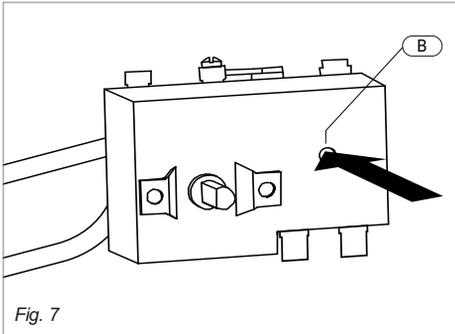

Fig. 7
- Firmly press reset button (Fig. 7, [B]) with the tip of a ball point pen or similar object.